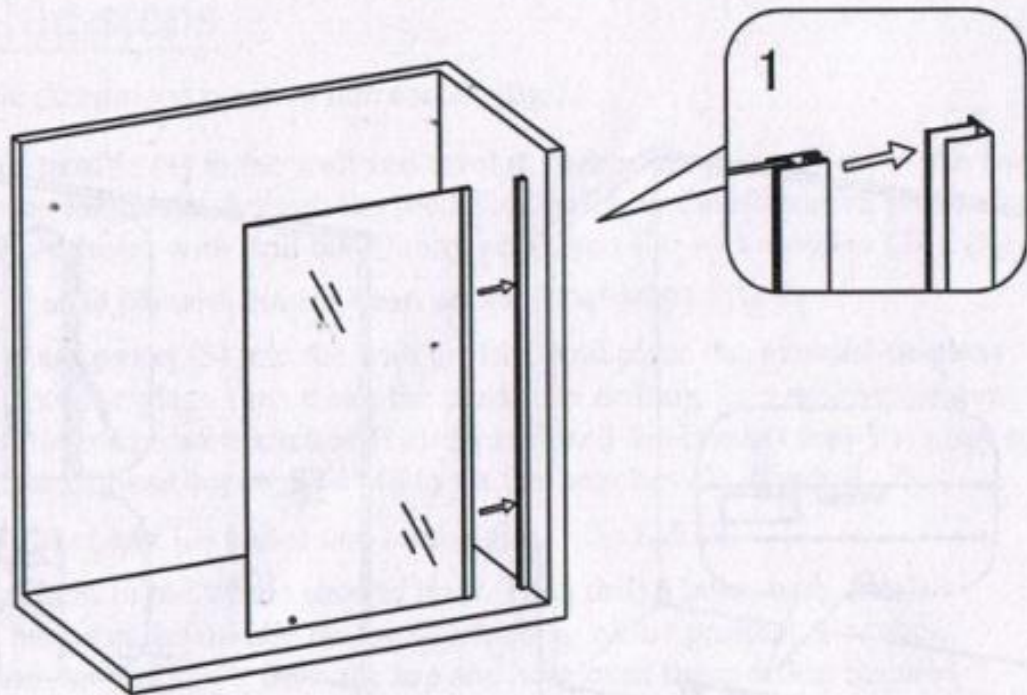

fig 5
4. Put the **fixed glass panel (5)** into the wall profile. And place the **ground-to-glass bracket (7)** onto the glass, then make the marks for drilling. Use drill bit($\Phi 8\text{mm}$) to drill hole and insert the **wall anchor (10)**. Next install the bracket onto the glass again and use the **round head screw ST4*45** to fix the **bracket (7)**. (fig 5, 6, 7)